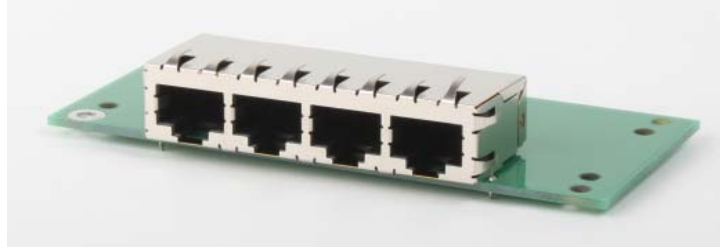

Figure 4: EP386 Panel
- **EP386 panel** – (For the DT9857 and DT9857-OEM modules only.) The EP386 panel, shown in Figure 4, contains four RJ45 connectors that are wired in parallel, making it useful when attaching up to four DT9857 modules together using the Sync Bus connector. Refer to page 103 for more information on using this panel.